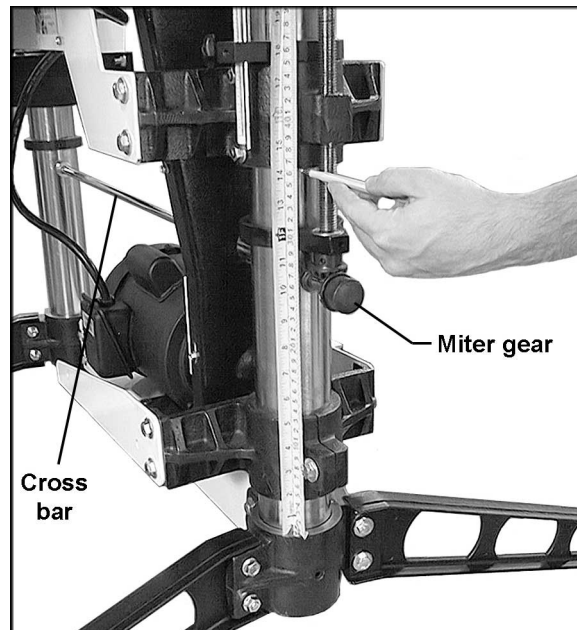

Figure 35
1. If the conveyor table does not rise and lower easily, measure the distance between the top of the base column support and the bottom of the table support on both the inboard and the outboard side of the machine. See Figures 35 and 36.
2. Compare these measurements; they should be within 1/16". If they are not, disengage the miter gear on the inboard side of the transfer rod (Figure 35) by prying off the protective cap with a screwdriver and loosening the set screw in the gear's collar.